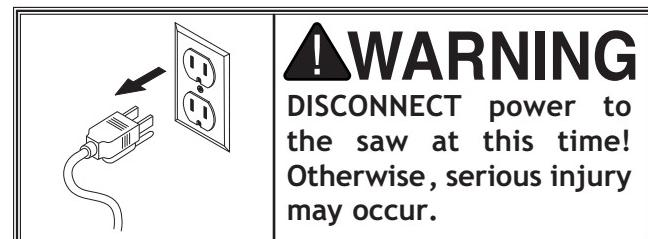

Figure 13. Fence adjustment setscrews.
4. Adjust the setscrews shown in Figure 13 to adjust the angle of the fence. Note— *The left setscrew will move the fence left and the right setscrew will move the fence right.*